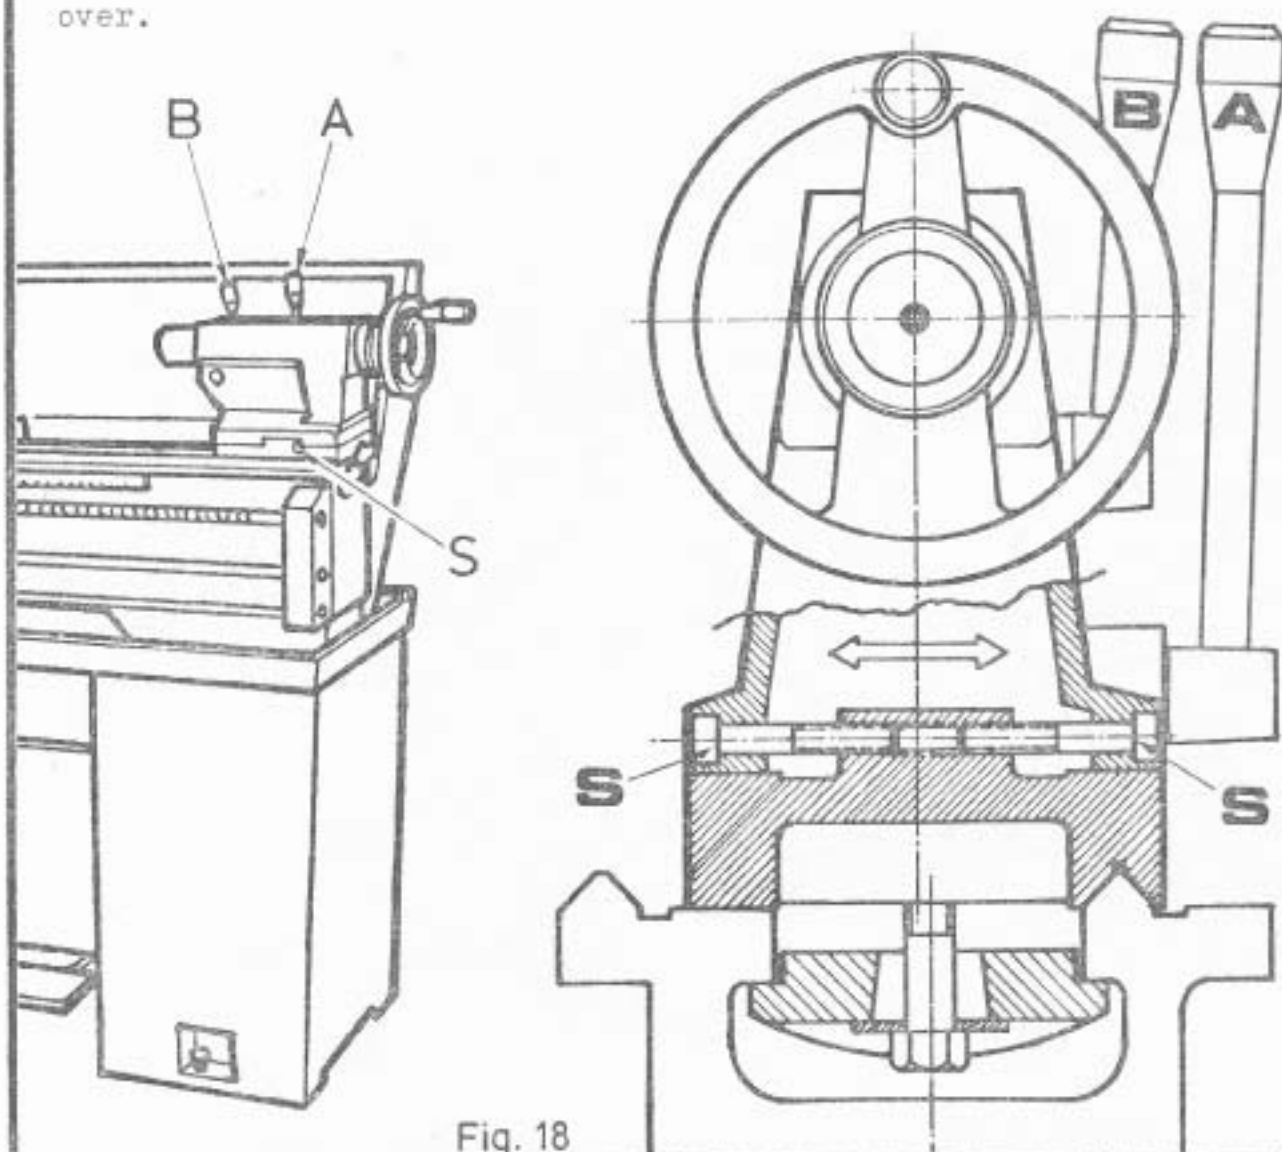

Fig. 18
The tailstock can be set-over for production of shallow tapers or for re-alignment. Release the clamping lever and adjust screws (S) at each side of the base to move tailstock laterally across the base. An indication of the setover is given by the datum mark (C) at the tailstock end face, as shown in Fig 18. Apply clamp lever after adjustment of set-over.